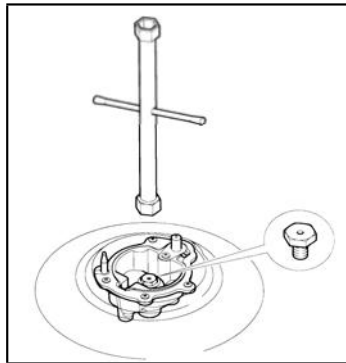

Fig. 8
- 4) Unscrew the nozzles using a 7 mm spanner, and replace them (Fig. 8) with those needed for the new type of gas according to what is indicated in Table 1 for model MH and in Table 2 for model MX M9.